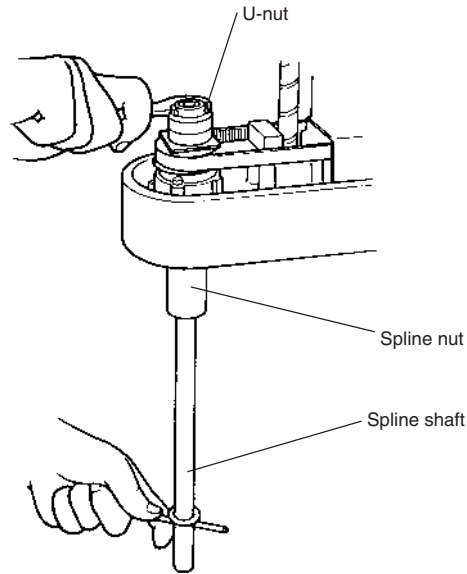

Fig. 5-47
(See Fig. 5-47.)
- 20) Insert the bearing mount plate and bearing onto the spline from the top, and tighten the U-nut to secure the bearing. (Utilize the $\phi 8$ through-hole when tightening the U-nut like you did to loosen it.) (See Fig. 5-47.)